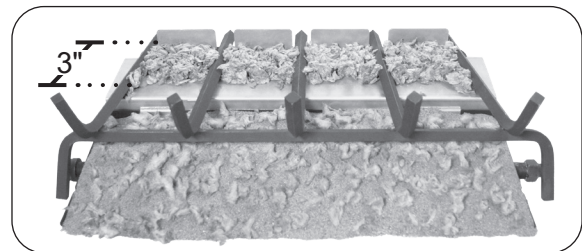

Fig. 2-1 Fill panel with embers
5. Fill approximately 3" of the panel area between the grate fingers with the remaining embers. Place and pack a level amount of the embers on the rear portion of the panel. See Fig. 2-1.